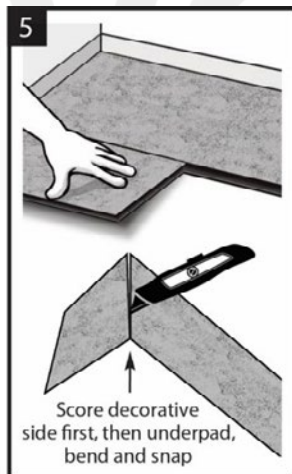

Figure 5
5. Start the second row with the plank cut at two-thirds for the staggered 3'-2'-1' method, or randomly staggered so the plank is cut no shorter than 300mm. (Figure 5). Simply measure and mark the plank. Then using a straight edge, make several passes with a utility knife over the decorative side of the plank. Turn the plank over and score the under pad of the plank at the same place and then snap.